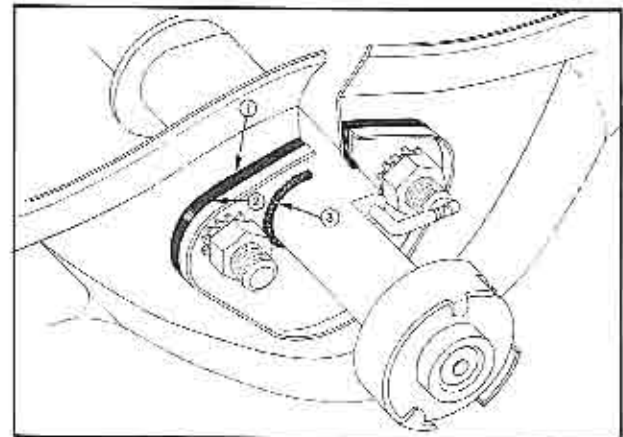

Fig. 3-7 Sealing Windshield Wiper Transmission Shaft
1. Before installation, seal areas indicated at 1 and 2 with medium bodied sealer, Fig. 3-7.
After installation seal area indicated at 3, Fig. 3-7.